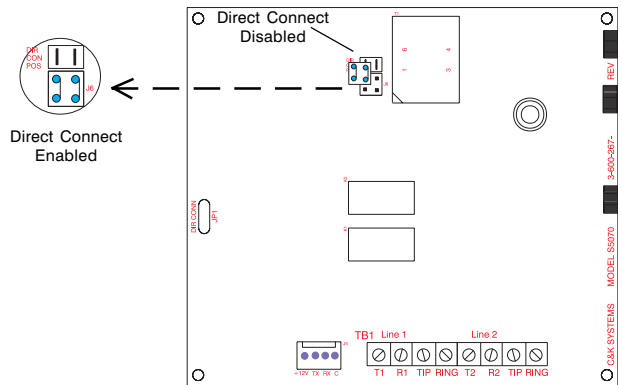

Figure 15
2. Move the jumper (J6) to the enabled position, as shown in Figure 15, below.
4. Enable the Direct Connect jumper (see Figure 15) and initiate the Direct Connect function in Commander II. When you hear the modem tones, momentarily short the Direct Connect pads located on the left-hand side of the digital communicator PCB. You should hear the seize relay energize to indicate connection.